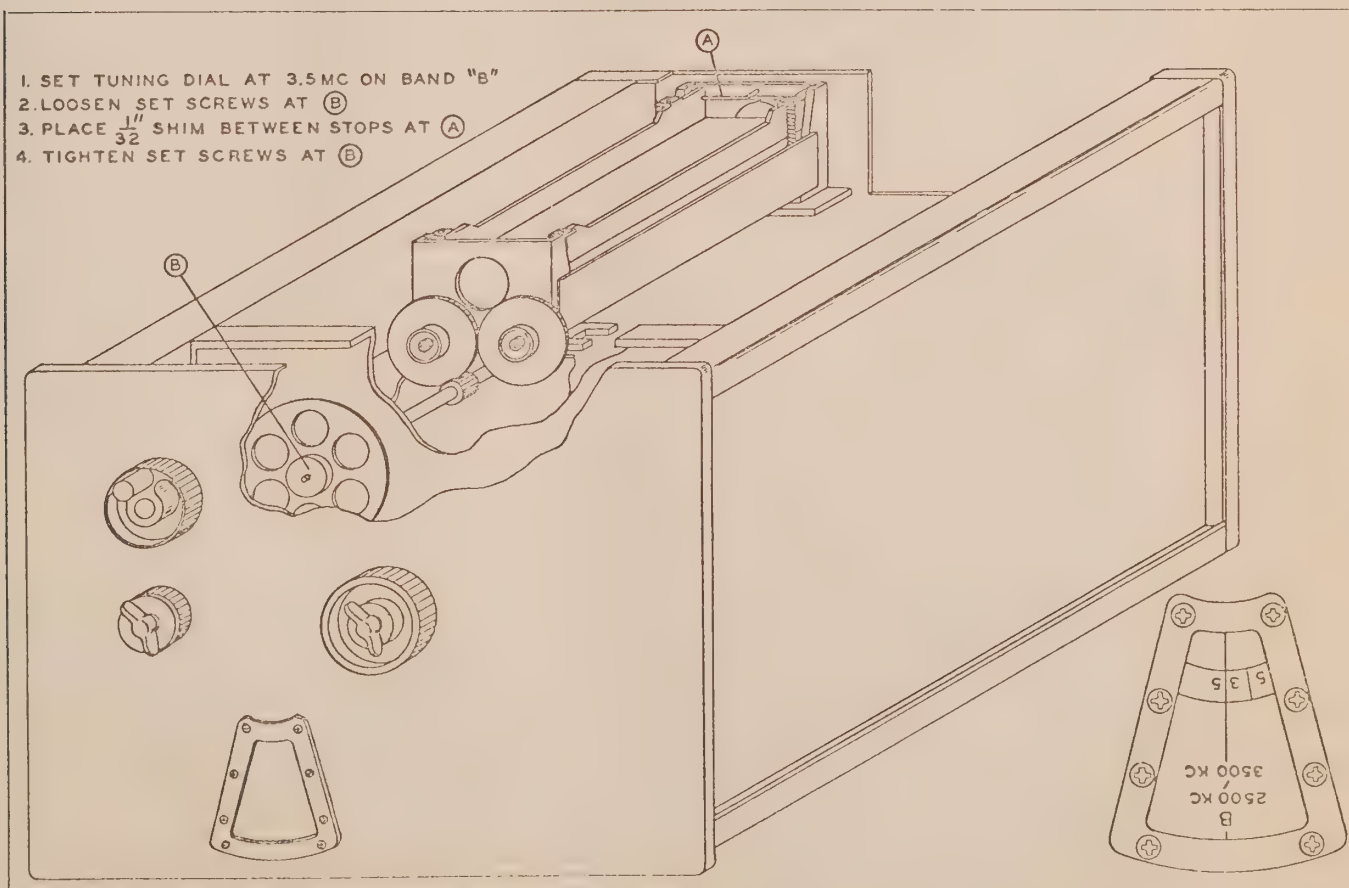

Figure 5-1. Oscillator Alignment
18. With the tuning dial set at 3.5 mc there should be approximately 1/32 inch clearance between the fixed stop and the movable stop on the tuning coil platform, see Item A figure 5-1. If this clearance is not 1/32 inch, the set screws in the large gear, Item (B) figure 5-1 on the front end of the tuning shaft should be loosened and the clearance between the stops adjusted by inserting a 1/32 inch shim between the stops after which the set screws should be tightened and the shim removed.